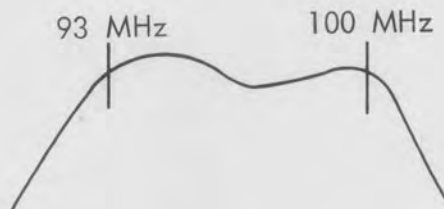

Figure 5-10. Response No. 1
- (1) Connect the sweep output cable of the test setup to W2.
- (2) Set the variable attenuator to 16 dB. Adjust C23 and C20 to obtain a response trace as shown in figure 5-10. If a response trace is difficult to obtain, decrease the variable attenuator and try again. When the response trace is present, reset the variable attenuator to 16 dB and finish the alignment of C23 and C20.